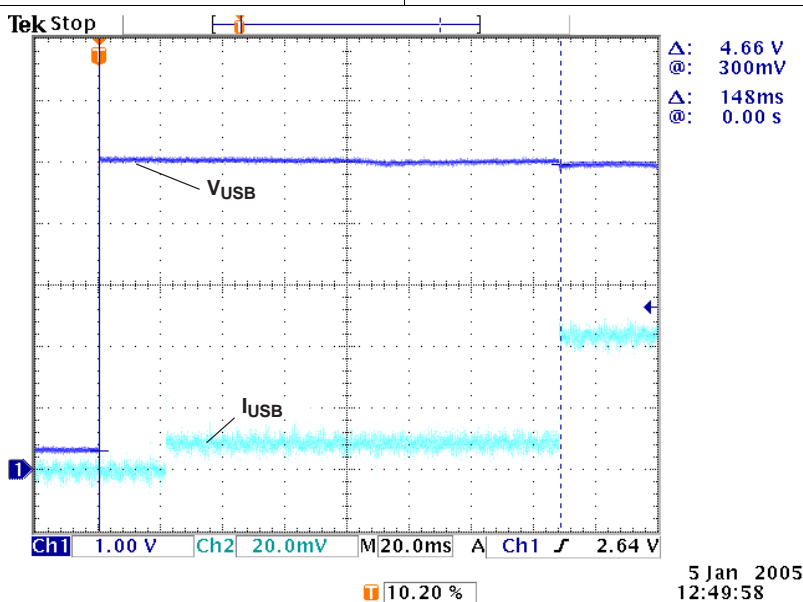

Figure 16. USB Boot-Up Power-Up
In order to facilitate the system start-up and USB enumeration, the bqTINY III-series offers a proprietary boot-up sequence. On the first application of power to the bqTINY III-series, this feature enables the 100-mA USB charge rate for a period of approximately 150 ms, ( $t_{(BOOT-UP)}$ ), ignoring the ISET2 and CE inputs setting. At the end of this period, the bqTINY III-series implements CE and ISET2 inputs settings. Table 2 indicates when this feature is enabled. See Figure 16.
**Figure 16** illustrates USB bootup and power-up via USB; channel 1 (CH1)  $V_{(USH)} = 0$  to 5 V; channel 2 (CH2) USB input current (0.2 A/div); PSEL = Low; CE = High; ISET2 = High;  $V_{BAT} = 3.85$  V;  $V_{(DPPM)} = 3.0$  V ( $V_{(DPPM)} \times 1.15 < V_{BAT}$ , otherwise DPPM mode increases time duration). When a USB source is applied (if AC is not present), the CE pin and ISET2 pin are ignored during the boot-up time and a maximum input current of 100 mA is made available to the OUT or BAT pins. After the boot-up time, the bqTINY III-series implements the CE and ISET2 pins as programmed.